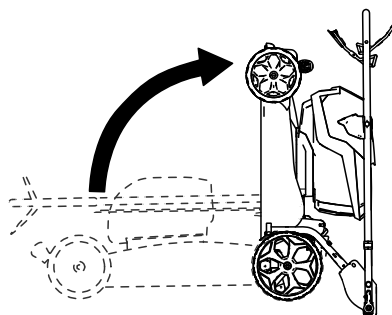

Figure 20
5. Fold the handle forward to the fully forward position as shown in Figure 20.
6. Lift the front of the machine by the handle and move it into a storage space (Figure 20).